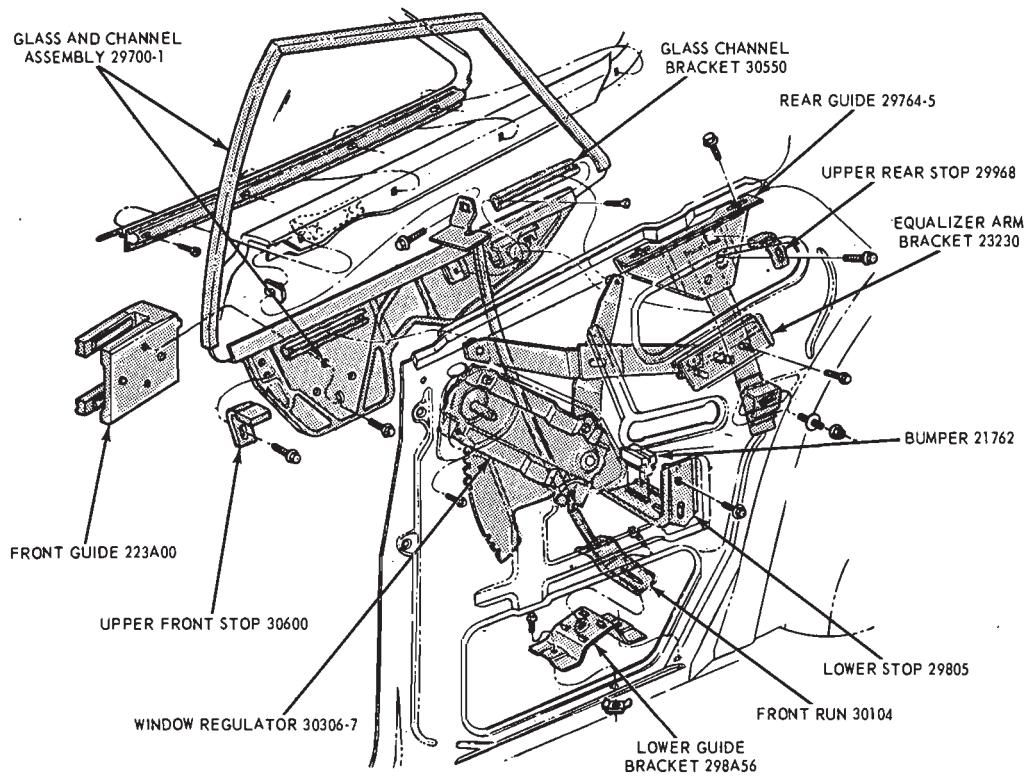

FIG. 10—Quarter Window Mechanism—Ford, Mercury and Meteor Model 63
2. Support the glass and remove the glass channel bracket from the glass channel (Fig. 10).
5. Remove the upper front and upper rear stops (Fig. 10).
3. Install the upper front and upper rear stops and the lower stop and stop bumper (Fig. 10).